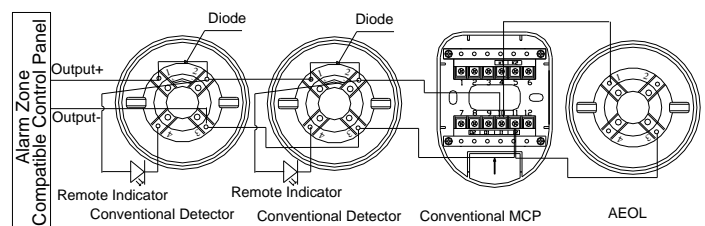

Fig. 4
- Used as the detector base, the AEOL is to install a conventional detector on it. The system connection is shown in Fig. 4.